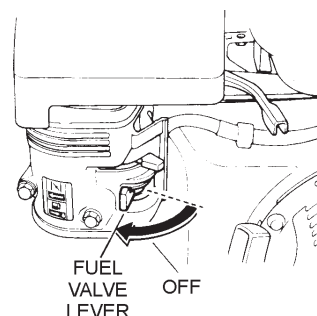

Figure 18. Fuel Valve Lever (OFF)
3. Place the **fuel shut-off lever** (Figure 18) in the “OFF” position.